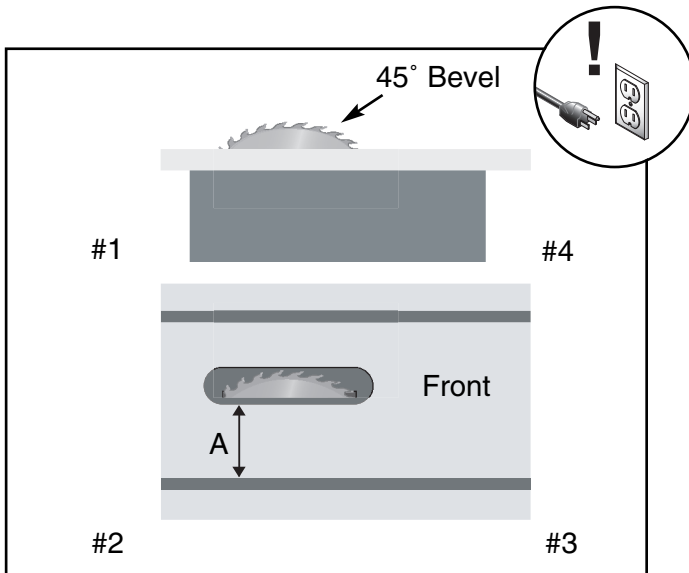

Figure 56. 45° blade parallelism measurement.
2. Using **Figures 56 & 57**, shim the trunnion assembly according to the difference measured when the blade was in the 45° position.